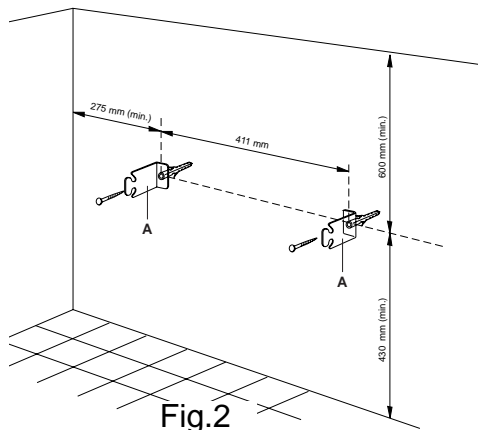

Fig.2
1. Fix two brackets "A" following carefully the dimensions as indicated in figure 2. Use a 6 mm masonry drill and suitable wall plugs and 2 x No 8 screws (minimum length 25 mm).